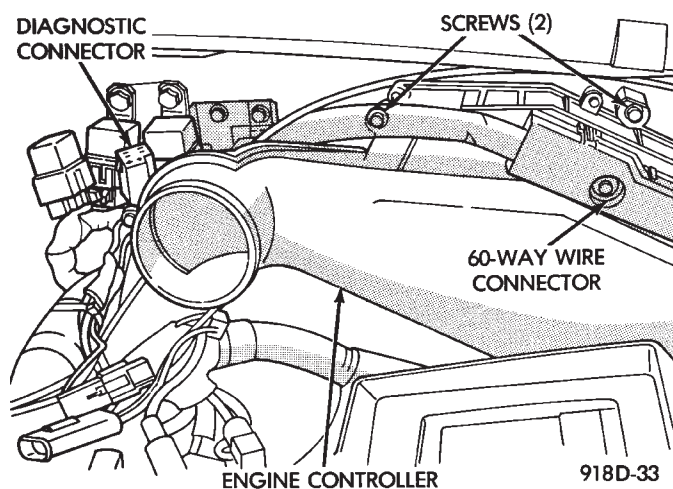

Fig. 15 Engine Controller Electrical Connector
(18) Ensure the 60-way connector is fully inserted into the socket on the Engine Controller (Fig. 15). Make sure the wires are not stretched or pulled out of the connector.